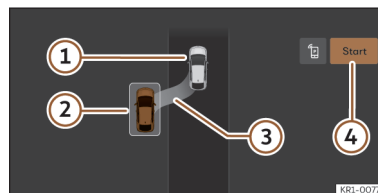
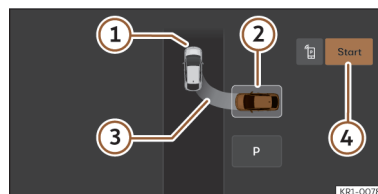

Fig. 161 On the infotainment system display: parallel parking position.
Fig. 162 On the infotainment system display: parking bay parking position.
>>> Fig. 161, >>> Fig. 162
- ① Your vehicle
- ② Parking space detected
- ③ Indication showing the proposed parking manoeuvre
- ④ Start parking manoeuvre
- Look at the display on the infotainment system's screen to see if the space has been detected as "appropriate" and if the correct position for parking has been reached >>> Fig. 161, >>> Fig. 162. Stop the vehicle and follow the instructions shown on the infotainment screen.
- Stop the vehicle, press the brake and, after a short pause, press the **Start** ④ button in the infotainment system.